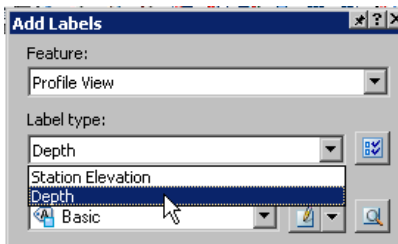

Figure 6-69 Selecting the **Depth** label type
11. Select **Depth** from the **Label type** drop-down list, as shown in Figure 6-69.